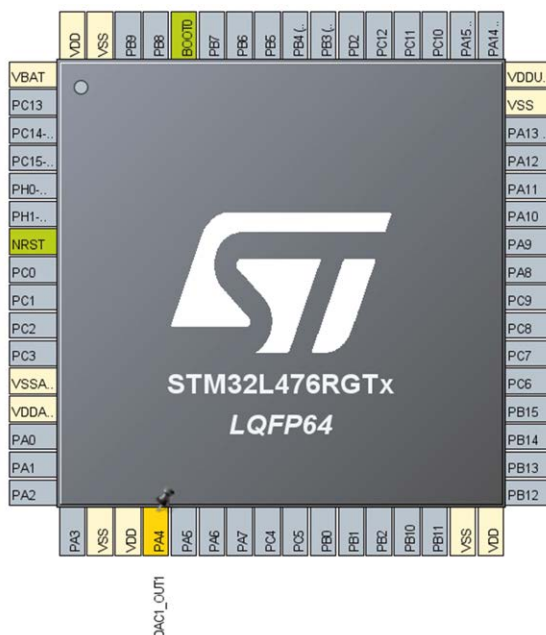

Figure 9.1: Setting PA4 to DAC1\_OUT1.
- Select pin **PA4** and set it to **DAC1\_OUT1** (Figure 9.1).